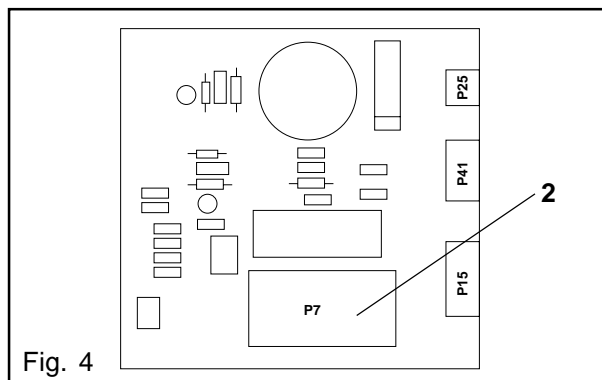

Fig. 4
- Connect the Molex plug connection of the coin module to P7 of the coin interface (1). (Fig. 4)